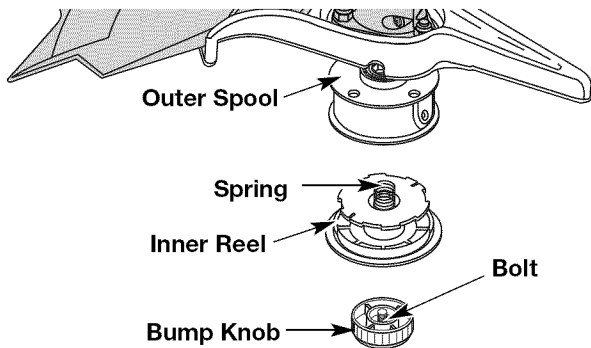

Fig. 27
1. Hold the outer spool with one hand and unscrew the Bump Knob clockwise (Fig. 27). Inspect the bolt inside the bump knob to make sure it moves freely. Replace the bump knob if damaged.
2. Remove the inner reel from the outer spool (Fig. 27).
3. Remove spring from the inner reel (Fig. 27).
- Hold the outer spool with one hand and unscrew the bump knob clockwise (Fig. 27). Inspect the bolt inside the bump knob to make sure it moves freely. Replace the bump knob if damaged.
- Remove the old inner reel from the outer spool (Fig. 27).
- Remove the spring from the old inner reel (Fig. 27).